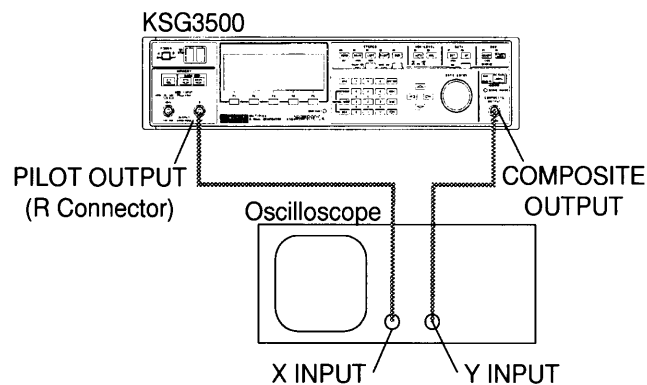

Fig.5-1 Oscilloscope Connection
- ① Connect the KSG3500A and the oscilloscope as shown in Fig.5-1.